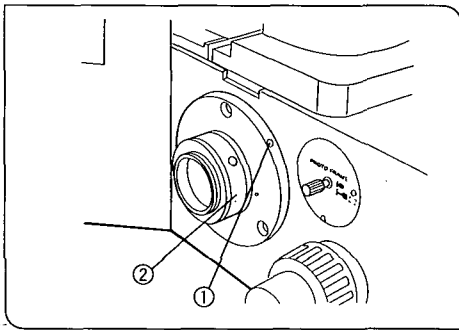

Fig. 110
### 1 Attaching the Video Adapter to the Side Port (Figs. 110, 111)
1. Loosen the side port clamping screw ① using the Allen screwdriver.
2. Fit the video adapter (IX-TVAD) ② onto the side port and tighten the clamping screw ①. (Fig. 110).
2. Lightly loosen the clamping screws ①, ⑤. (Figs. 110, 111)
3. While observing the monitor image and holding the U-CMT ③ or U-FMT ④ stationary, rotate IX-TVAD ②. Tighten the clamping screws ① and ⑤ when the image is in focus. (Figs. 110, 111)
- ★ If the clamping screw ⑤ is facing downwards and is difficult to tighten, loosen the screw ① and then hold only the IX-TVAD and rotate it until the screw ⑤ faces upward. Then, tighten the screw ⑤. Next, rotate to the original position and tighten the screw ①.